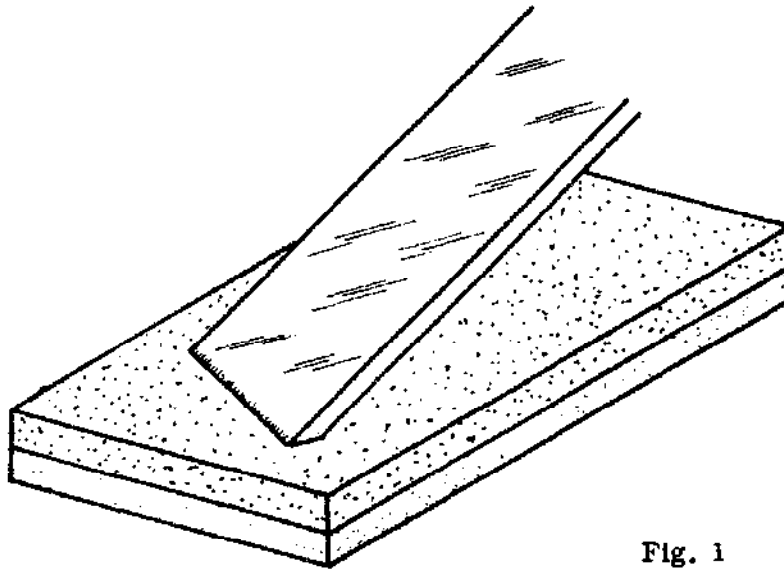

Fig. 1
- When grinding, place the cutting iron on the stone so that the bevel lies flat (Fig. 1) and rub it with circular movements. Do not rub it just back and forth, as this makes the stone wear unevenly.